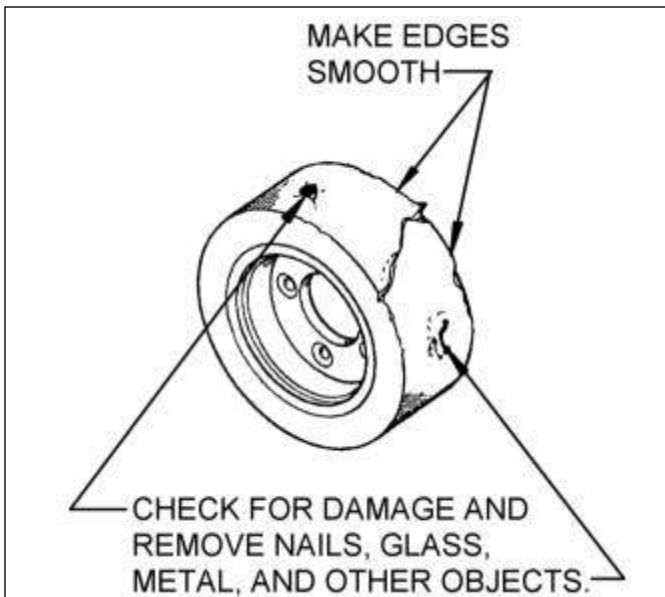

Figure 2-10: Tire Damage Types
2. Remove any object that will cause damage. See **Figure 2-10 on page 2-7**.
Sharp, rapid turns at quick speeds, jack-rabbit starts and stops and other such bad driving habits can cause the same kind of damage. **See Figure 2-10.**